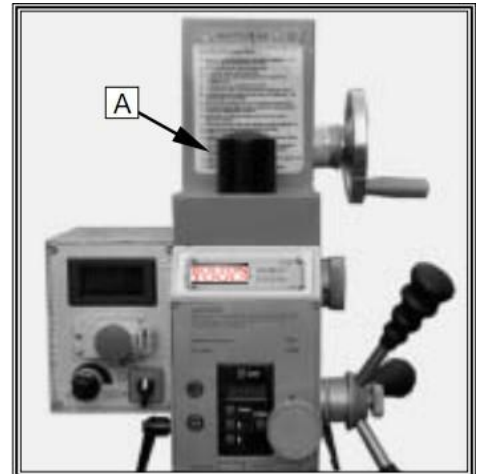

Fig. 56
2. Remove the cover of drawbar onto the motor cover (A, Fig. 56).